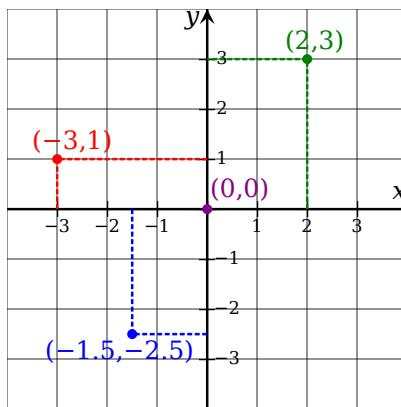

Figure 19.1. A Cartesian coordinate system in the 2D plane
-axis and the y -axis. We assign $(0, 0)$ to the point of intersection, which we call *the origin*. Then we decide on the positive directions and units for each axis and the unit. We will use coordinates (x, y) to specify a point located x -many units in the positive x -direction and y -many units in the positive y -direction away from the origin, respectively. If we draw the axis-parallel lines with *integral x* coordinate and lines with integral y coordinate, we obtain a visualization similar to that in Figure 19.1.